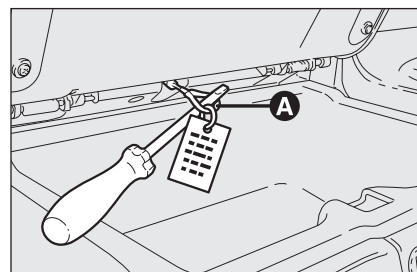

fig. 63
- ☐ work on cable **A-fig. 63**. The cable has a slot that can be enabled with the screw driver included in the supply that allows to open the hydraulic system release emergency valve. There is also a tag that has the warnings that allow to avoid accidental enabling of the cable;